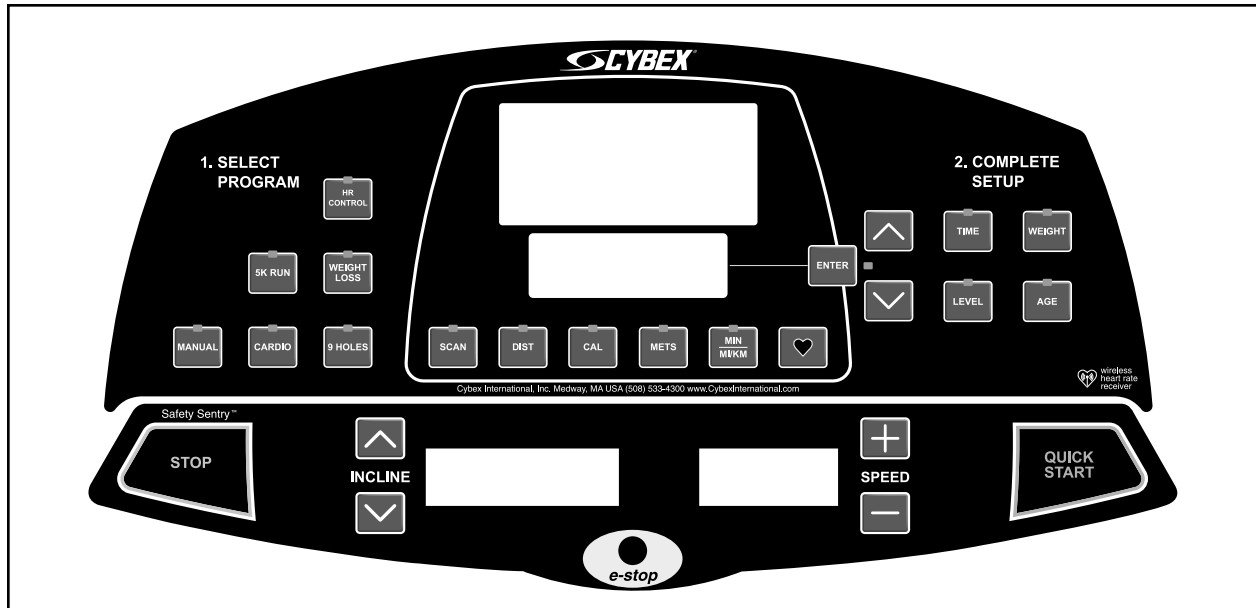

Figure 1
8. Observe the three displays. During your workout the time will show in the format of minutes:seconds. If your workout exceeds sixty minutes the time format will change to minutes only. The center window will scan (every three seconds) through **Distance, Calories, Mets, MIN MI/KM (Pace) and Heart Rate**. Press the **Scan** key to toggle this feature on or off. **NOTE: Heart Rate is scanned only when you are holding the contact heart rate grips or using Polar compatible heart rate transmitter.** See Figure 1.